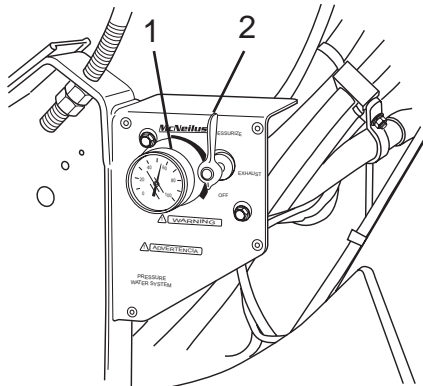

Figure 69
2. Turn air pressure control valve to the PRESSURIZE position (Figure 69, Item 1). The water tank will be pressurized from the chassis air system. The air gauge (Figure 69, Item 2) will indicate the pressure in the water tank. The pressure must not exceed 55 psi (380 kPa).